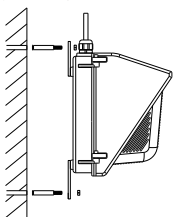

Figure 3
3. Get rubber plugs into the holes, match 3 mounting kits to the rubber plugs, then fix the fixture on the wall by screws. (Figure 3)